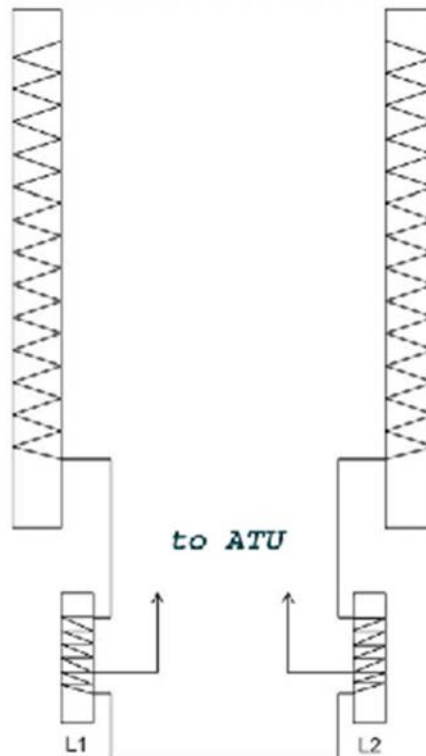
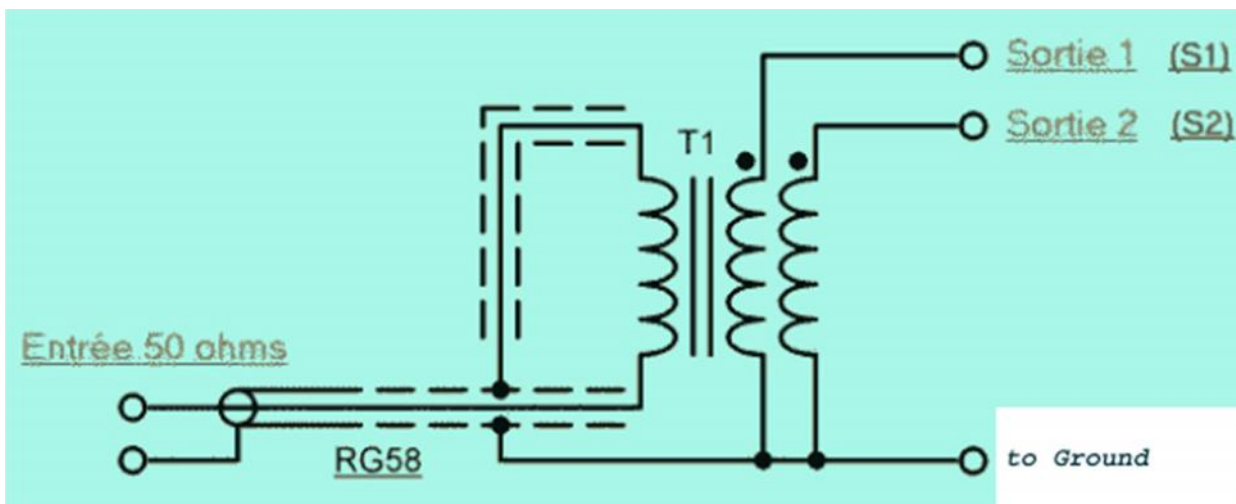

Figure 4 Modification of the UR5WCA Balcony Antenna
Figure 5 ATU of the UR5WCA Balcony Antenna
2. The coils (see Figure 4) were deleted and verticals were connected straight away to RF transformer (see Figure 5).